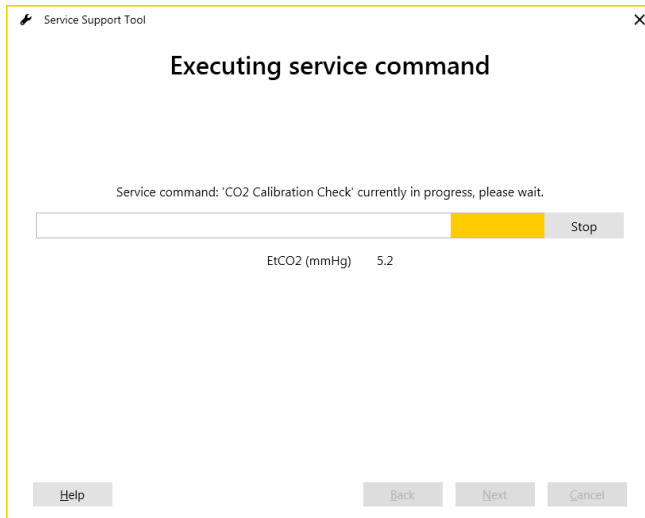

Figure 25
5. Connect the calibration gas canister to the front panel CO₂ connector using Assy, Tubing, Calibration Test Masimo CO₂ P/N 3335916-002 or Assy, Tubing, Calibration Test, MDT CO₂ P/N 3335916-003 as shown in the following Figure 25.